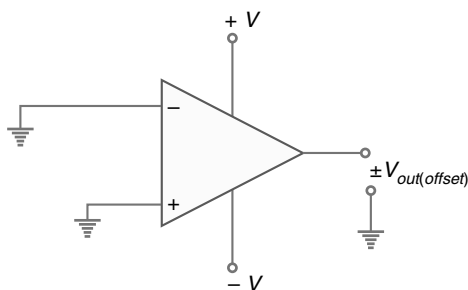

Fig. 23.22
**1. Output Offset Voltage.** Even though the transistors in the differential amplifier are very closely matched, there are some differences in their electrical characteristics. One of these differences is found in the values of  $V_{BE}$  for the two transistors. When  $V_{BE1} \neq V_{BE2}$ , an imbalance is created in the differential amplifier. The DA (or OP-amp) may show some voltage at the output even when the voltage applied between two input terminals is zero. This is called *output offset voltage*. This point is illustrated in Fig. 23.22. Note that with the inputs of DA grounded, the output shows a measurable voltage. This voltage is a result of the imbalance in the differential amplifier, which causes one of the transistors to conduct harder than the other.